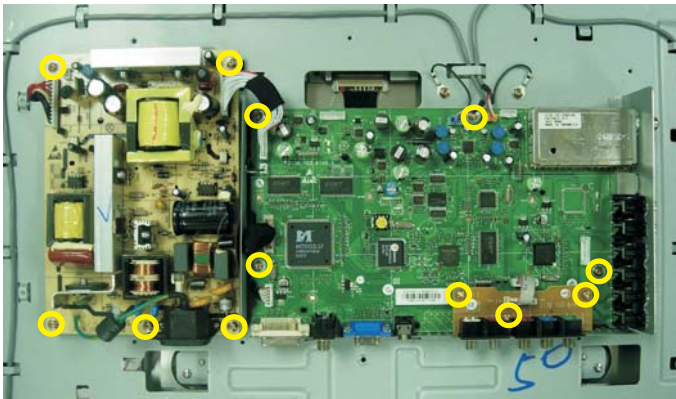

Fig.10
- Remove all screws as shown in Fig.10